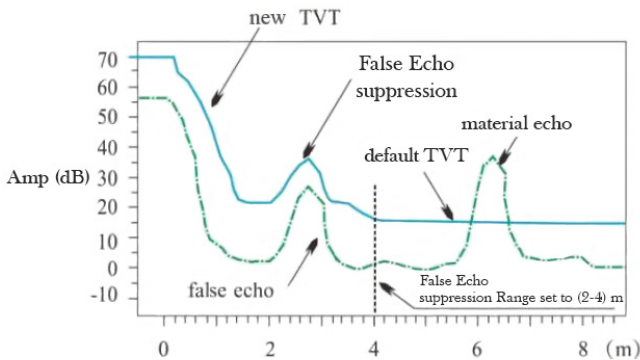

Figure 3.12 False echo suppression
*Distance Offset* positions the zero reference point of the sensor to be at the bottom of the NPT threads as indicated by point **A** in Figure 3.12. It can also be used to offset the sensor reference point as needed.